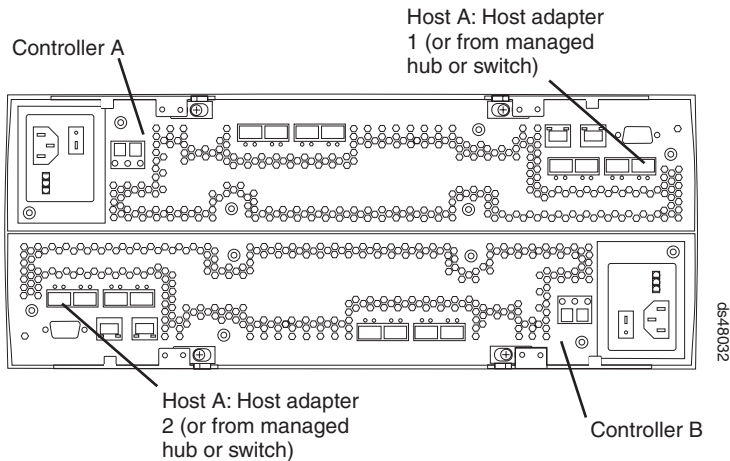

Figure 61. Location of host cables on RAID controllers
2. Connect the fibre channel cables from the SFP modules in the DS4800 RAID controller host ports to either the SFP modules in the fibre channel switch or the SFP modules of the host bus adapters. Figure 61 shows the location on the RAID controllers where the host-system cables connect.
Table 29. Description of Figure 61